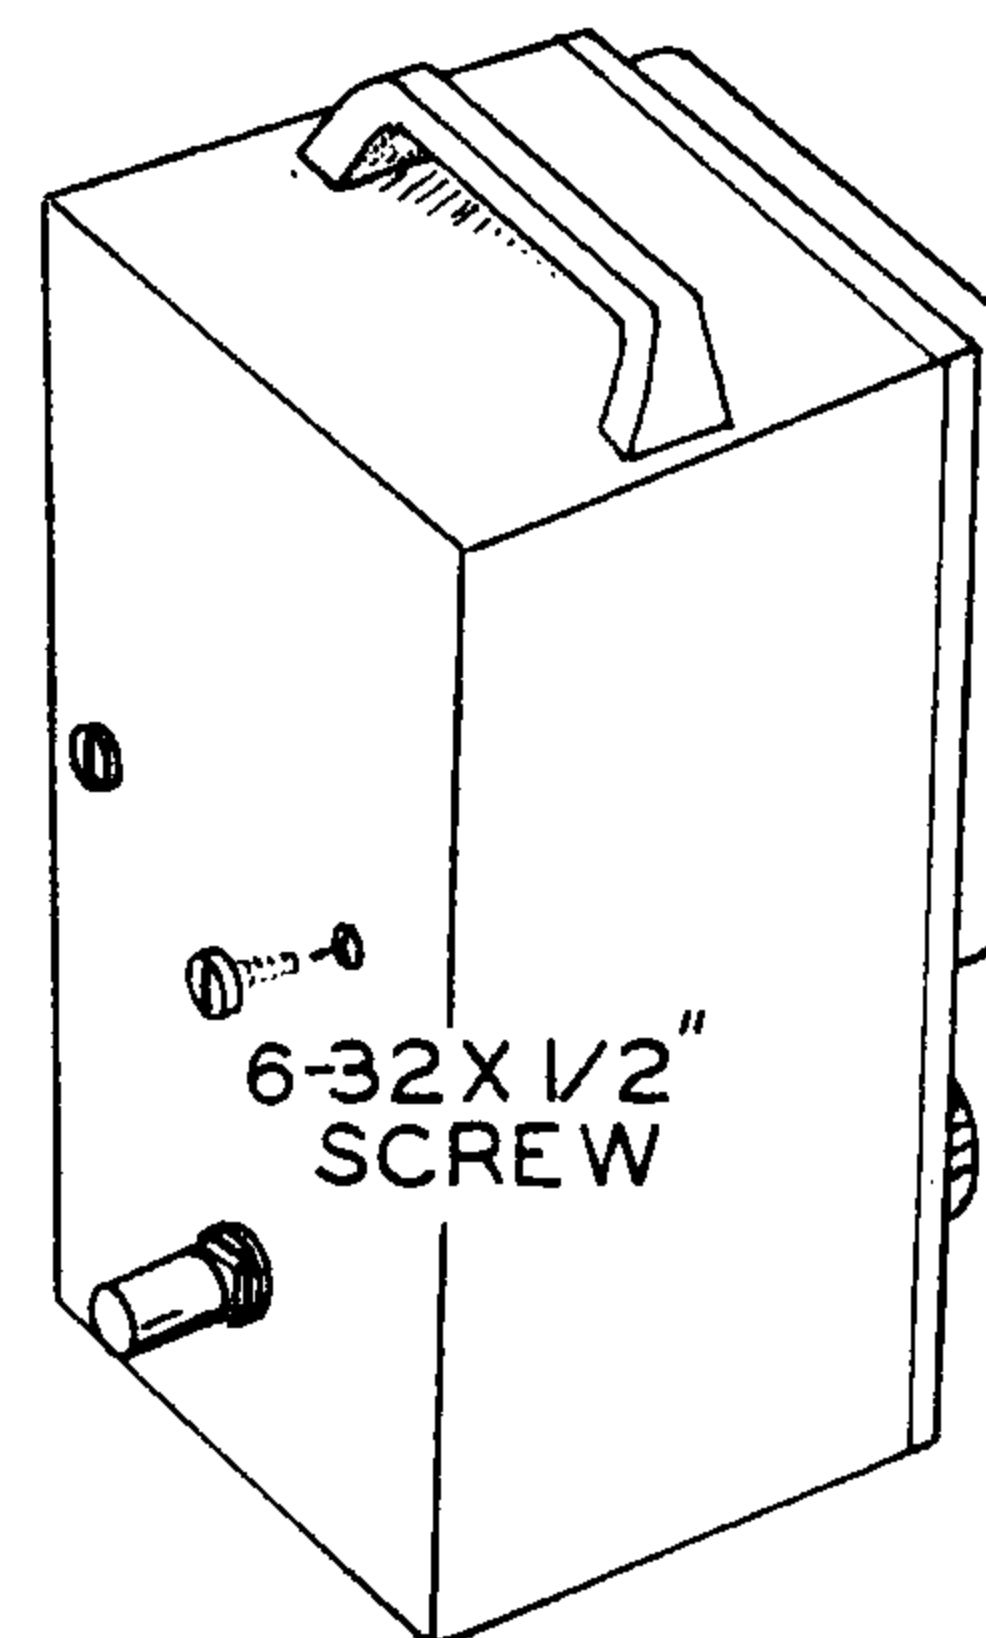

Figure 3
- () Install the VTVM in the cabinet, using two 6-32 x 1/2" screws as shown in Figure 3.